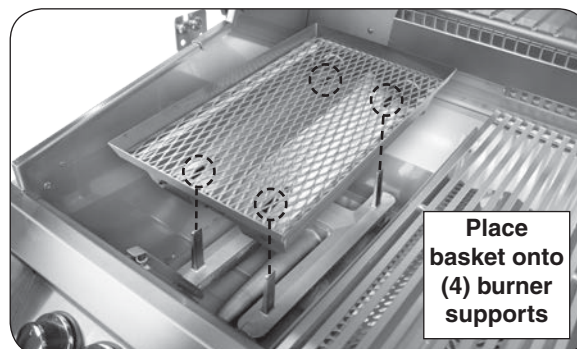
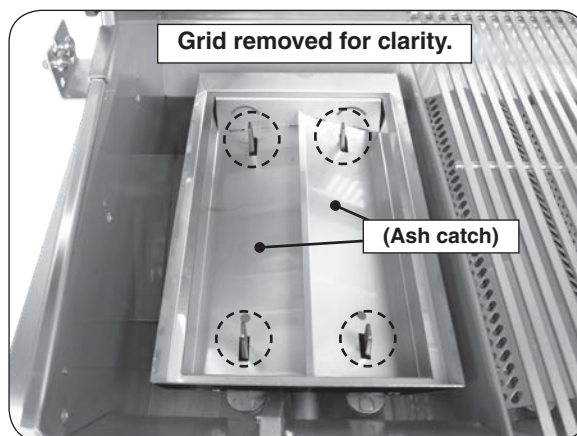

Fig. 32-3 Place basket onto burner
Fig. 32-4 Basket placement detail
3. Place basket onto burner in place of flavor grid. Align basket cutouts over burner supports (see Fig. 32-3 and Fig. 32-4).